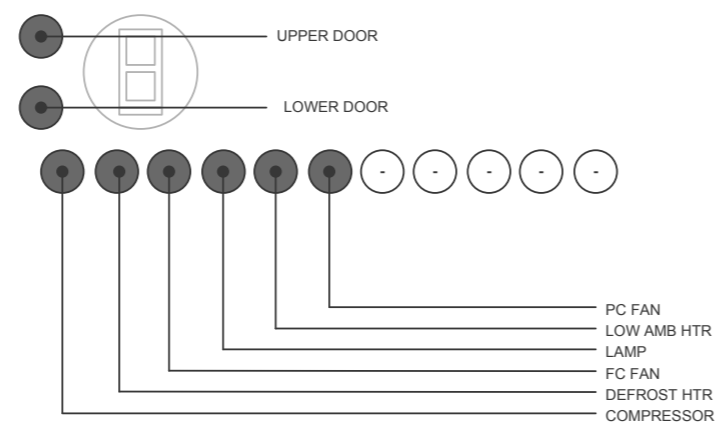

Fig.7 Input/output assigned to each LED
- The respective LED turns on when a device is running, as shown in Fig.7 above.